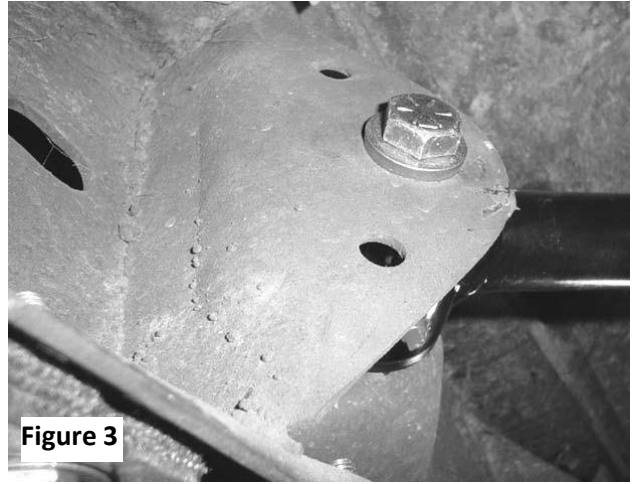

Figure 3
4. Install the front bolt first using the thicker ½” washers supplied on the outside of the frame. See **Figure 3**.